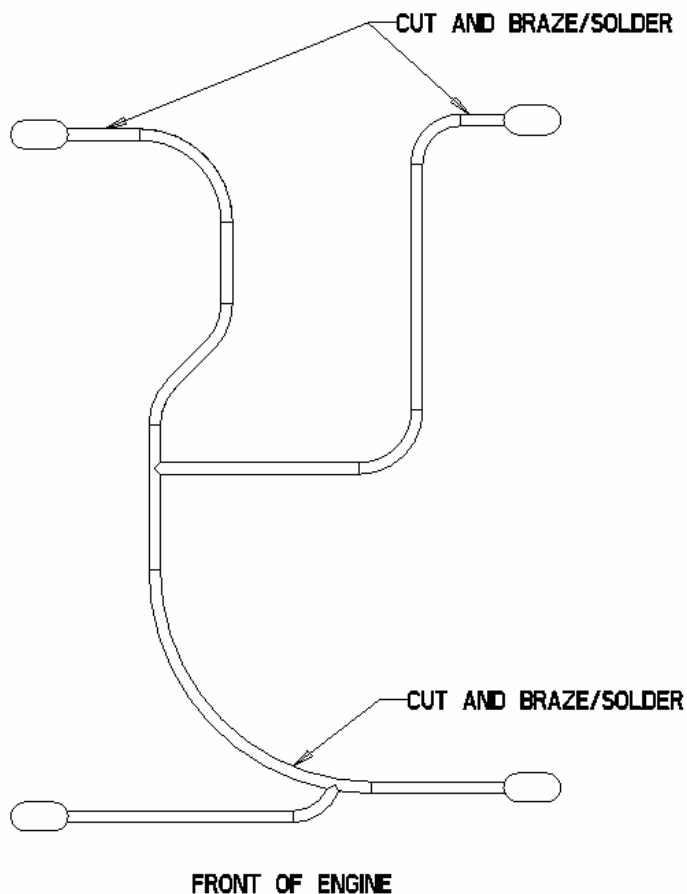

Figure 1
1. LS6 engines do not need modification to the valley coolant tubes. 2000 and earlier LS1 engines do need modification. If you want to use the LS6 parts on your LS1 engine, the GM part numbers are #12578838 for the front crossover and #12563325 for the rear plugs. The rear plugs are called the LS6 head water cover and you will need a quantity of 2. If you want to use your stock coolant tubes, you can cut, flatten, fold, and braze/solder the coolant lines, as shown in Figure 1.